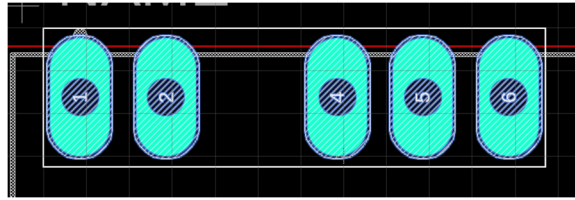

Figure 32 - Pads shape and angle changed.
14. Change the coordinate of this line as Figure 32 below.